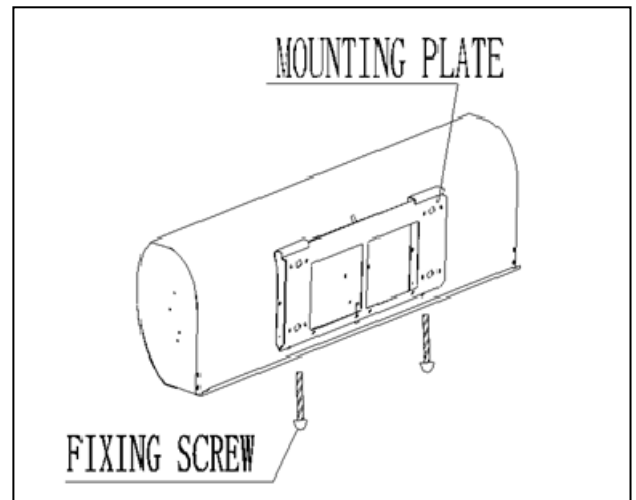

FIG. 1
2. Remove fixing screws and mounting plate from unit. (FIG. 1).